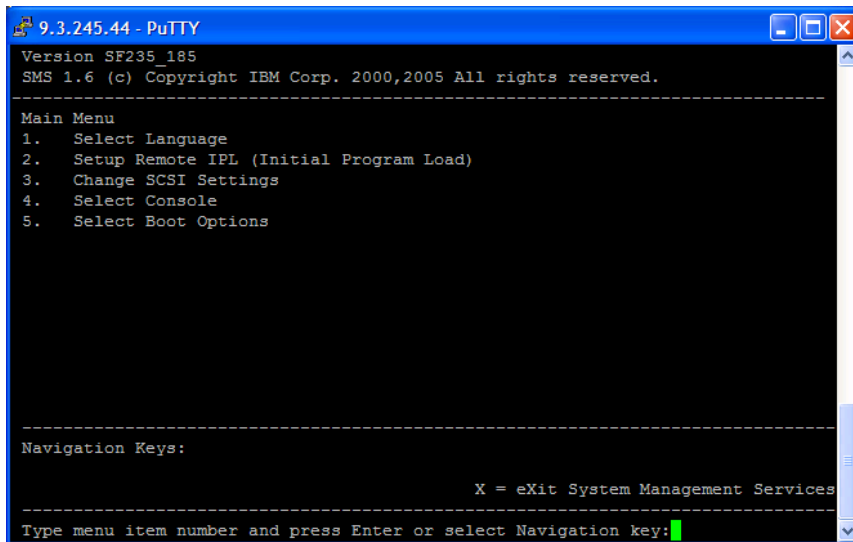

Figure 65. Selecting boot options
7. On the next screen (see Figure 65), select option **5 (Select Boot Options)**.